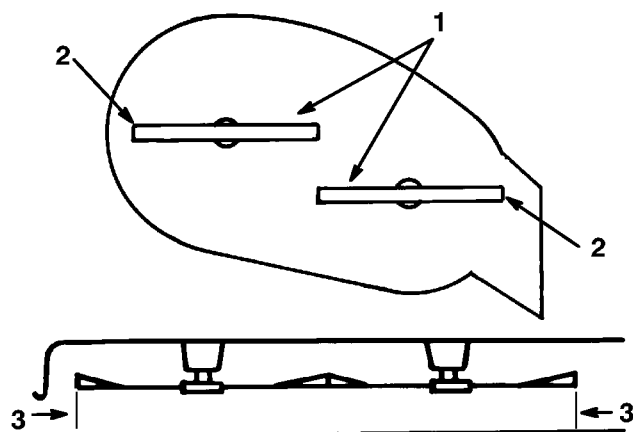

Figure 49
4. Carefully rotate blade(s) side to side (Fig. 49). Measure between the outside cutting edges and the flat surface (Fig. 49). If both measurements are not within $\frac{3}{16}$ " (4.762mm), an adjustment is required; refer to steps 5 and 6.